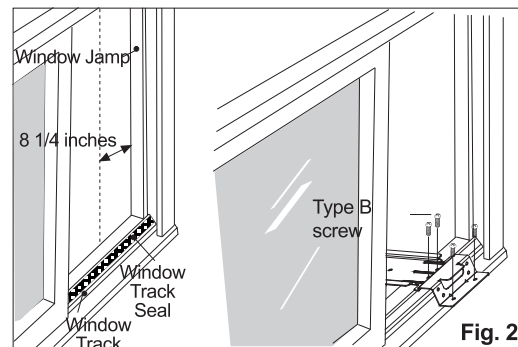

Fig. 2
2. Remove protective backing from Window Track Seal and apply seal to window track. (Fig. 2)
3. Measure and lightly mark a line 8 1/4 inches from window jamb. Center the Support Bracket assembly on the window track and fasten with 4 Type B screws. (Fig. 2)